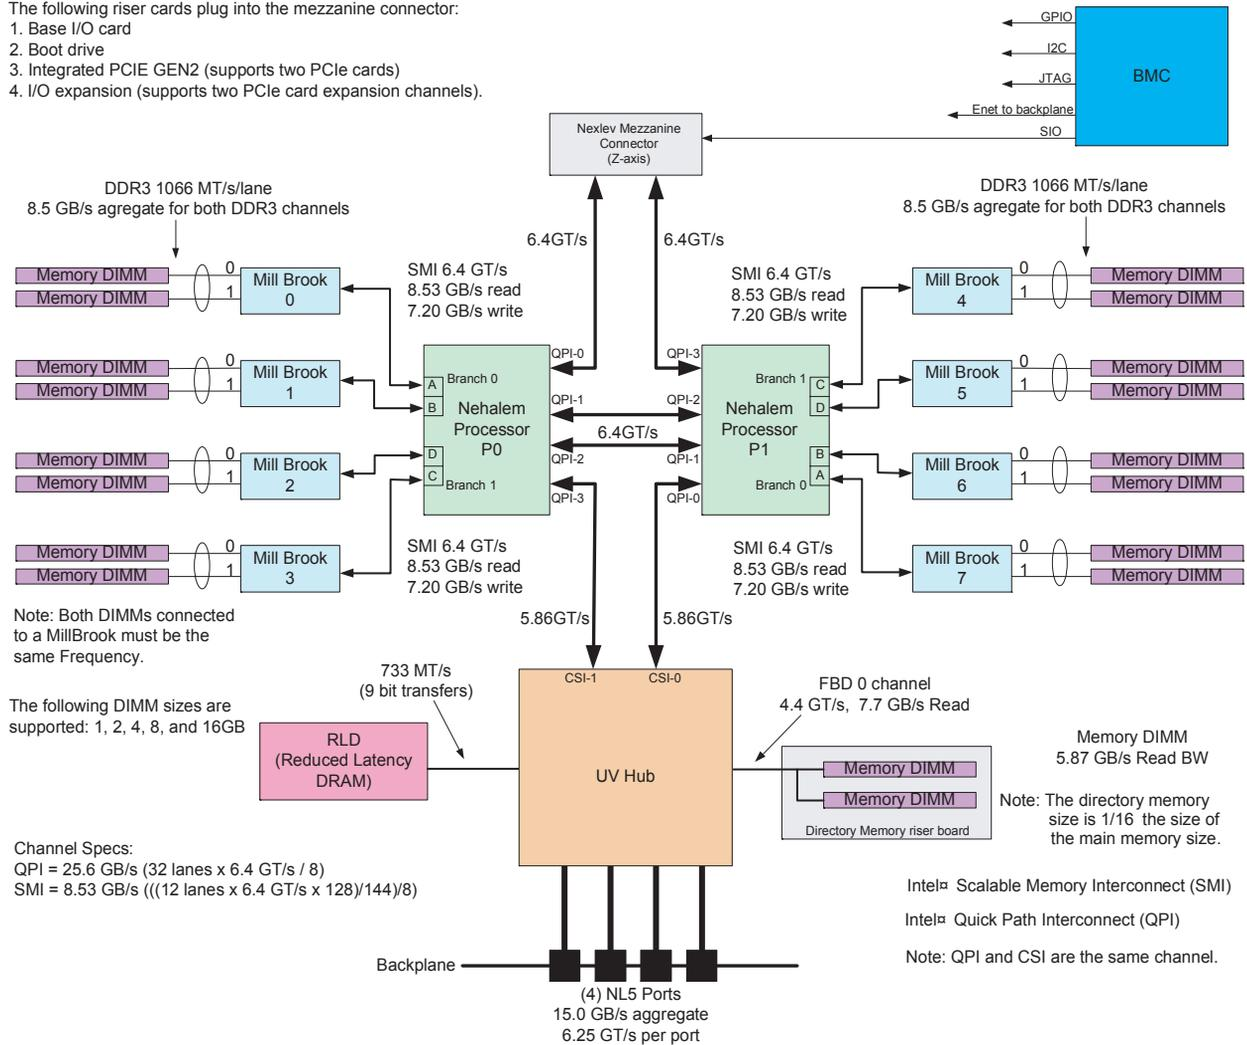

Figure 3-4 Blade Node Block Diagram
- If a processor accesses memory that it is connected to on a compute node blade, the memory is referred to as the node’s *local memory*. Figure 3-4 on page 38 shows a conceptual block diagram of the blade’s memory, compute and I/O pathways.